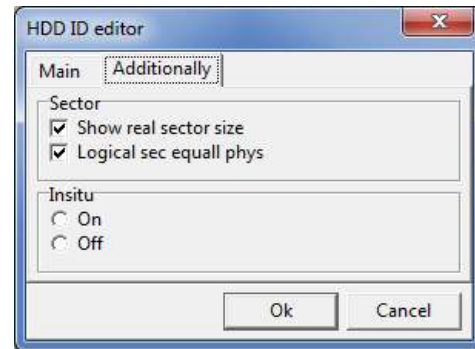

Fig. 5.15
- ♦ Editing of the sector parameters displayed in the HDD ID (Fig. 5.15). The operation only makes sense in HDD using Advanced format1. The option to «Show real sector size» allows you to enable in the HDD ID indication of actual physical sector size for the drives which use hidden physical sector size (F4\_3D, M8E). If the «Logical sec equall phys» option is selected, the logical sector size will be set to 4 Kbytes, otherwise it will be 512 bytes.